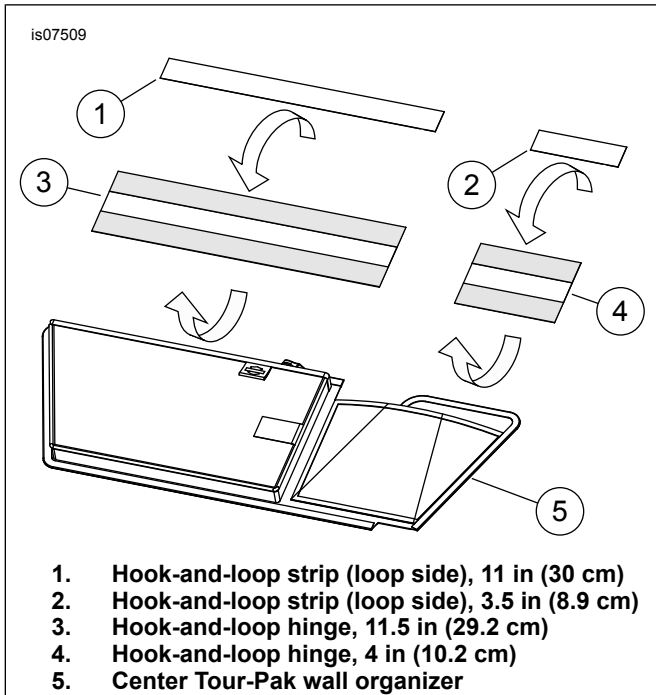
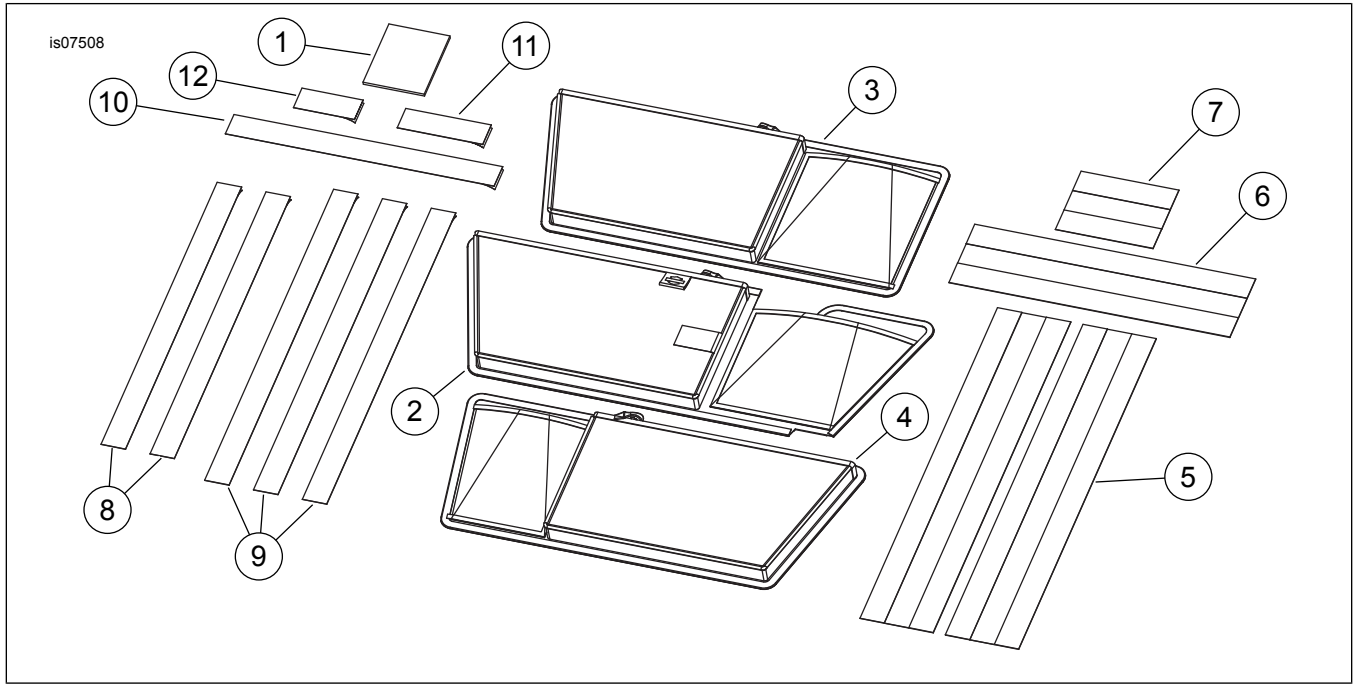

Figure 1. Install Hinge Strip to Organizer
Figure 3. Kit Contents: Tour-Pak Wall Organizer
See Figure 3 and Table 1.
2. See Figure 3. Use the alcohol wipe (1) and clean the interior surface of the Tour-Pak in the hook-and-loop strips mounting locations. Allow Tour-Pak to dry completely.
3. Remove the protective tape. Press the hook-and-loop strips into the locations (1) shown in Figure 1. The hook-and-loop strips should be located approximately 3 mm (1/8 in) below the edge of the Tour-Pak base.
The lower hook-and-loop strips (Figure 3, item 9) attached to the wall organizers are not used on a Tour-Pak[®] with a liner.
4. See Figure 1. Install hinge strips to the Tour-Pak wall organizers.
- a. Remove upper hook-and-loop strips (1 and 2) from the center Tour-Pak wall organizer (5).
- d. Remove the lower hook-and-loop strip (Figure 3, item 9) from the center Tour-Pak wall organizer.
Hinge strips (Figure 3, items 5, 6 and 7) are not used on a Tour-Pak® without a liner.
2. See Figure 3. Use the alcohol wipe (1) and clean Tour-Pak hook-and-loop strips mounting locations. Allow Tour-Pak to dry completely.
- b. Remove the protective tape from the hook-and-loop strip (Figure 3, items 8-11).